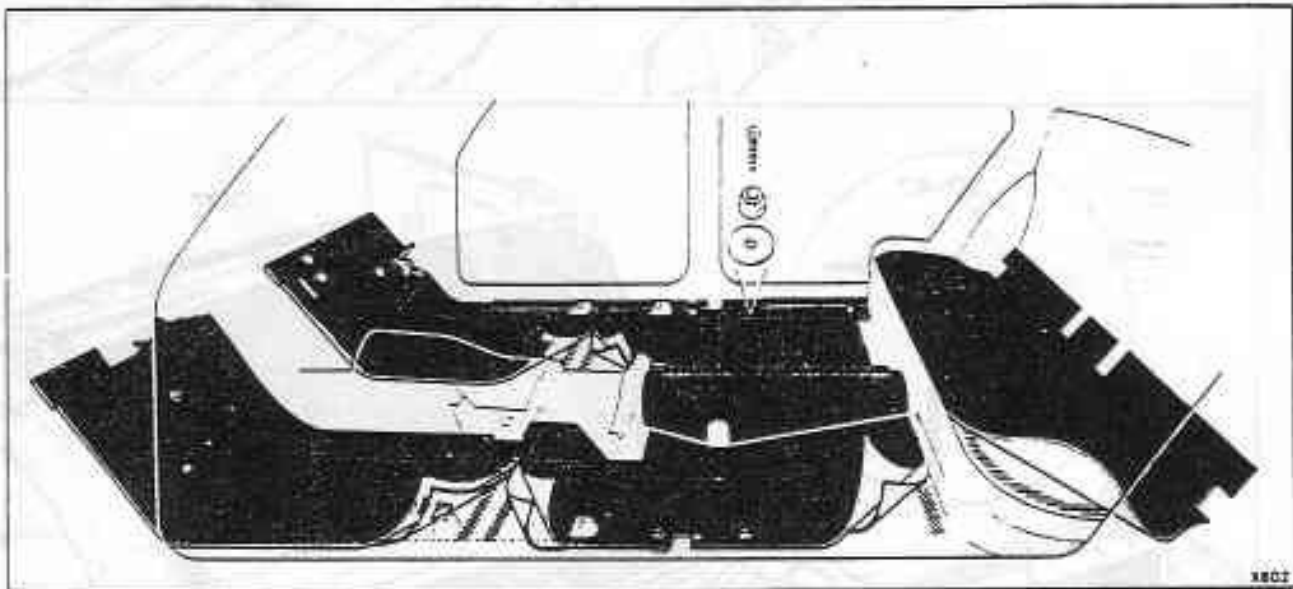

Fig. S8-15 Soundproofing material - floor and seat base areas
Soundproofing material - floor and seat base areas - To remove and fit (see fig. S8-15)
5. Stir the Apollo Adhesive AX2344 thoroughly, then apply the adhesive evenly to the floor and foam in the areas indicated in figure S8-15. Allow five minutes to 'flash' dry.
6. Lay the foam underlay and press into position. Note that there is no foam underlay on the driver's side of the car (see fig. S8-15).
On cars conforming to a Japanese and North American specification, 'Koawool' non inflammable insulating material is fitted beneath the PVC coated soundproofing, on the left-hand side of the car. The approximate area covered by the 'Koawool' is shown in figure S8-15.
and foam adjacent to the accelerator pedal (see fig. S8-15). Leave for five minutes, then press firmly together ensuring that there is adequate clearance around the pedals.
9. Fit 50 mm (2.0 in) black waterproof tape to the areas shown in figure S8-15 on both sides of the car.